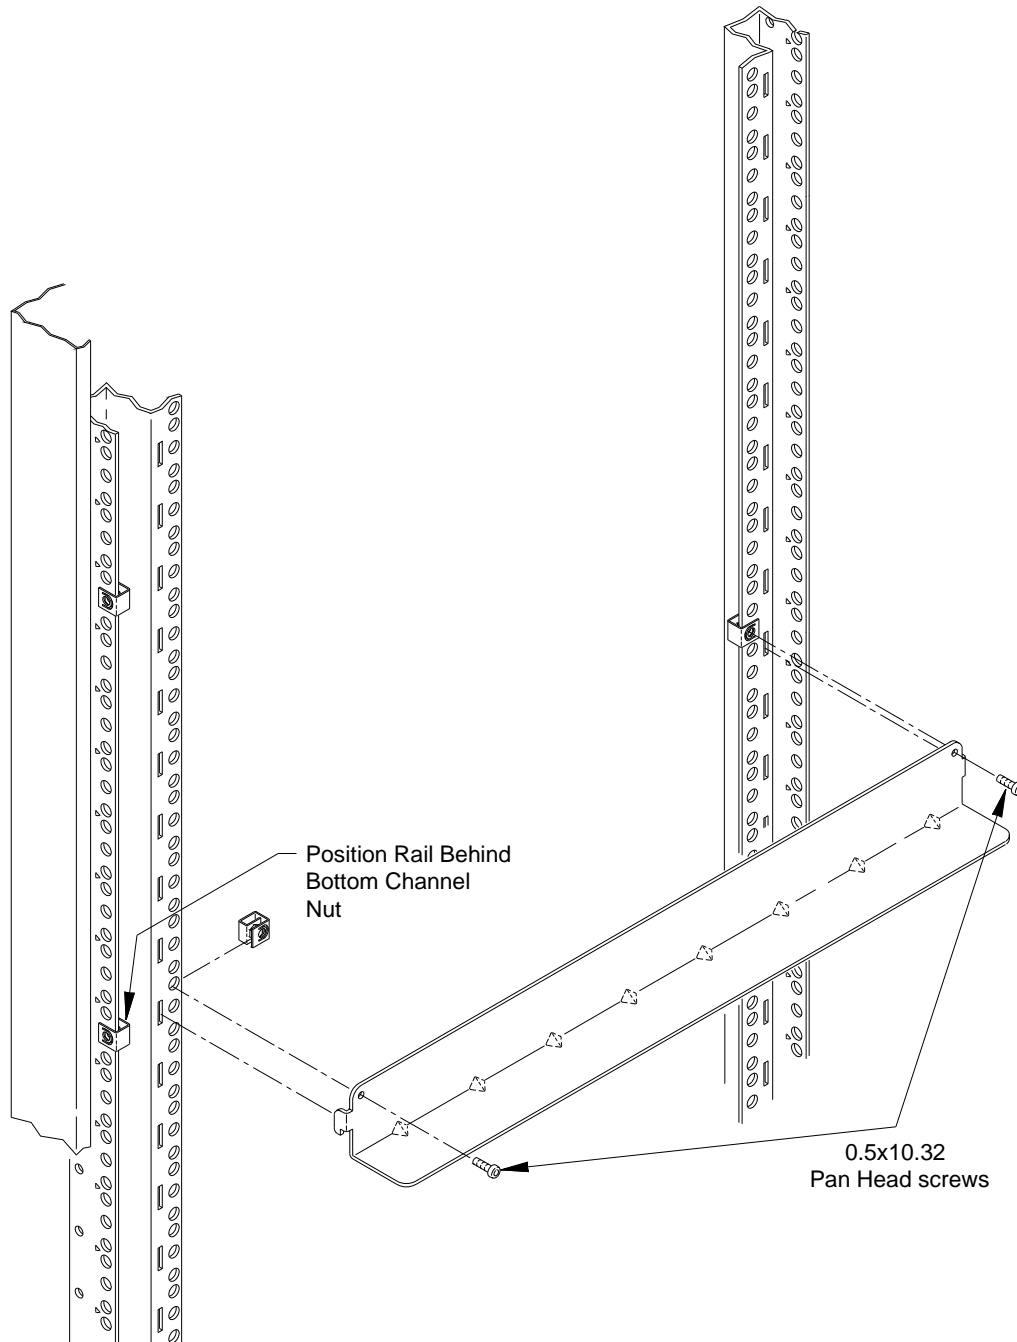

Figure 2-3. Attaching the Support Rails to the Rack
4. Attach the support rails to the rack's inside vertical rails. The support rails must be positioned behind the **bottom** channel nuts installed in Step 3 (Figure 2-3). Use four channel nuts and the four 0.5x10-32 support rail-to-rack pan head screws to secure the rail.